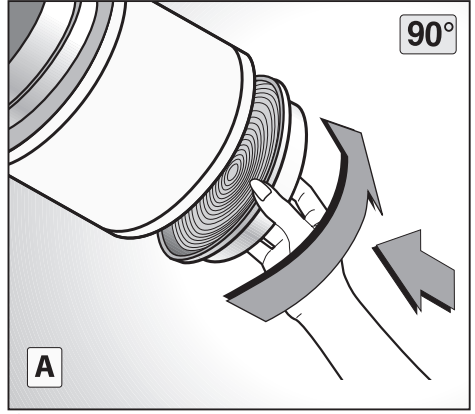
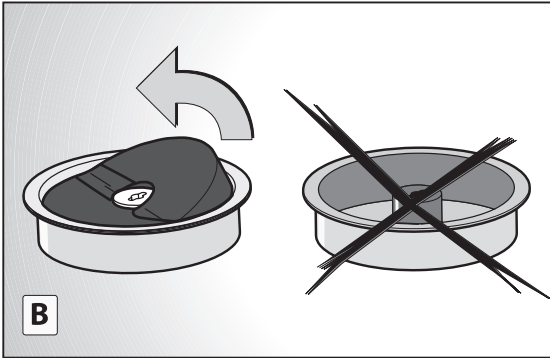

Fig.6
Fig.7
-In order to transform the hood from **EXTRACTOR VERSION** into **FILTERING VERSION** the active carbon filters must be ordered at your distributor as accessory. We have two different types of Kit, one with non-regenerable active carbon filters (Fig.6) and the other one with regenerable active charcoal filters (washable) (Fig.7).
- For the **WASHABLE CIRCULAR** regenerable active carbon filters (Fig.7), remove the pad and follow the instructions in the USE AND MAINTENANCE paragraph, "regenerable active carbon filters".